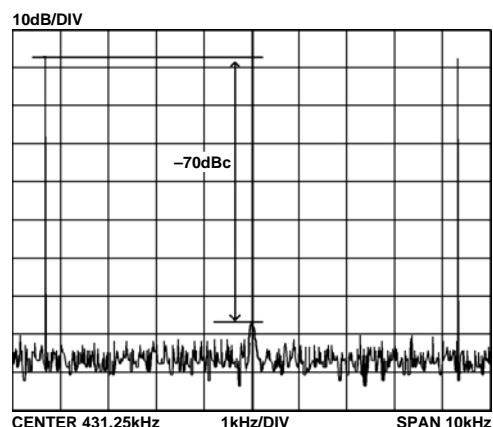

Figure 25. MTPR Measurement
Multitone power ratio is a commonly used figure of merit that xDSL designers use to help describe system performance. MTPR is the measured delta between the peak of a filled frequency bin and the harmonic products that appear in an intentionally empty frequency bin. Figure 25 illustrates this principle. The plots in Figure 10 and Figure 13 show MTPR performance in various power modes. All data were taken with a circuit with a k factor of 0.1, a 1:1 turns ratio transformer, and a waveform with a 5.4 peak-to-average ratio, also known as the crest factor (CF).